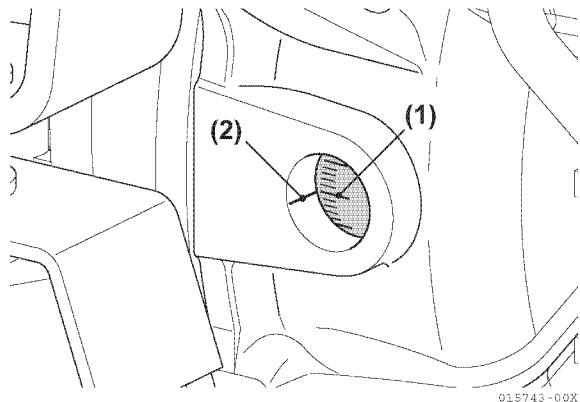

Figure 6-87
9. Highlight the target timing mark (**Figure 6-87, (1)**) on the flywheel as calculated in *Determining the Fuel Injection Timing Specification on page 6-58*. (FIT18°)
12. Check the position of the previously determined flywheel target timing mark (**Figure 6-87, (1)**) in relation to the timing reference mark (**Figure 6-87, (2)**) on the flywheel housing. If the two marks are aligned, the fuel injection timing is correct. If the marks do not align, the fuel injection timing must be adjusted. See *Adjusting Fuel Injection Timing on page 6-62*.